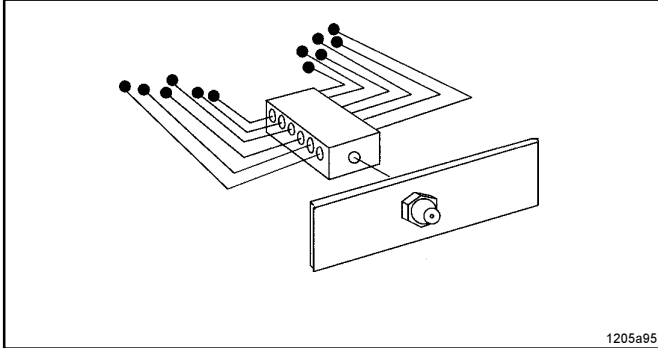

Fig. 4 - Central lubrication point
- QUICKLUB progressive metering devices offer the option of combining several lubrication points on a machine to one or more central lubrication points, as shown in Fig. 4 which illustrates this basic feature.
- Progressive metering devices can be used in two-line or single-line centralized lubrication systems in order to increase the number of outlets of multiline pumps or to subdivide the single metering devices and measuring valves (Fig. 4 - 8) also as secondary metering devices in large and small oil circulating systems.